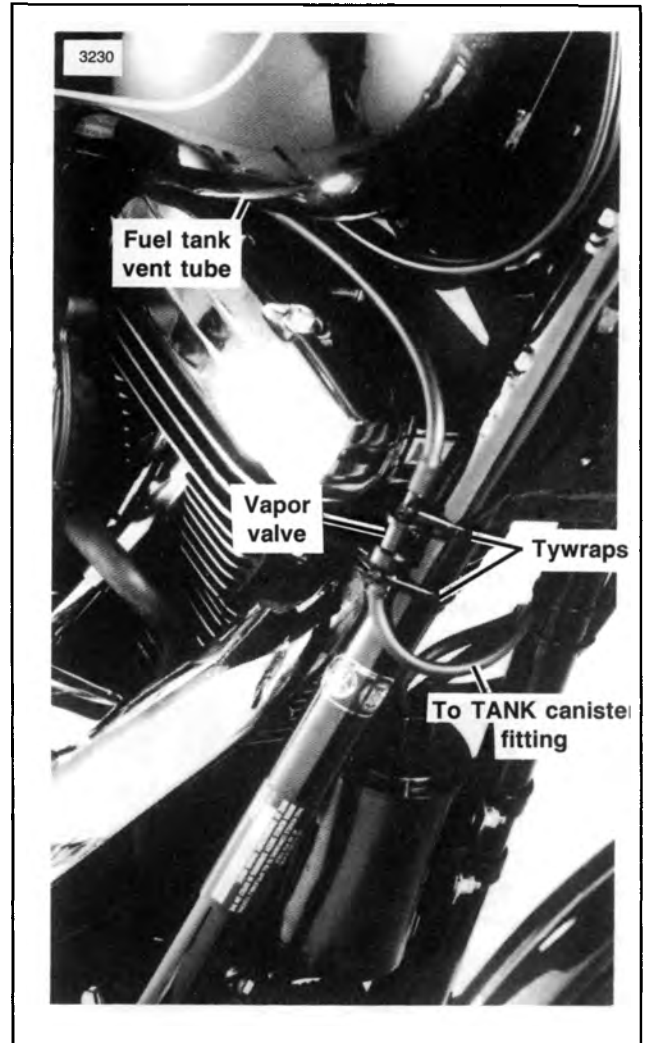
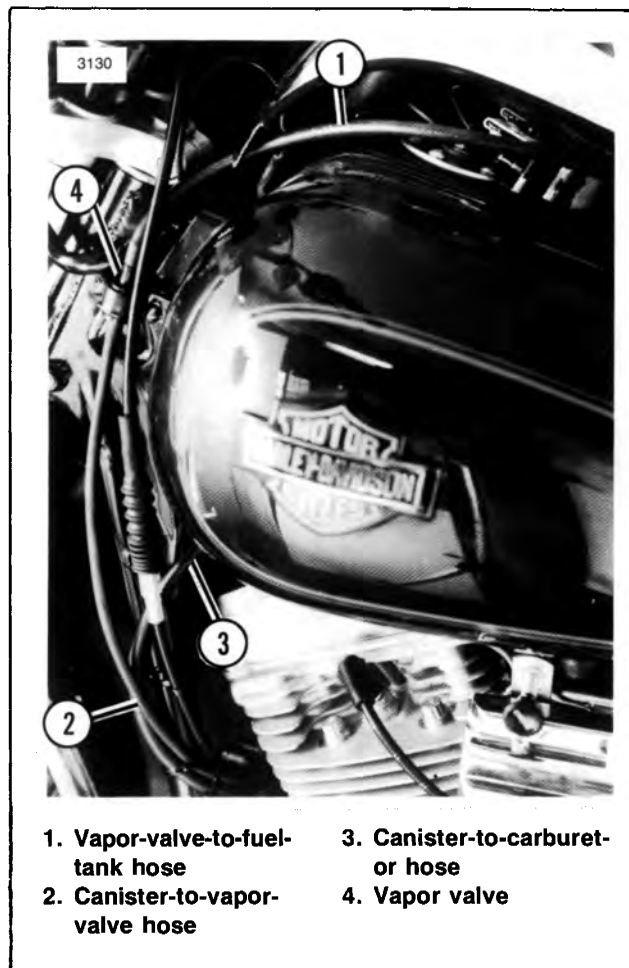

Figure 4-63. Vapor Valve Location — FXLR, 1988 FXRS
Figure 4-66. Hose Routing
See Figure 4-63. Mount vapor valve to right frame downtube as shown.
VAPOR-VALVE-TO-FUEL-TANK HOSE (Figure 4-66)
On FXRT, FXLR and FXRS the vapor valve location is different from that shown in Figure 4-66. FXRT hose is routed on left side of steering head as shown in Figure 4-66. The hoses on FXLR and FXRS are routed as shown in Figure 4-63.
The canister-to-vapor-valve hose connects the "TANK" nipple on the canister to the bottom nipple of the vapor valve (4). See Figure 4-66. On FXR, FXRS-CONV and FXRS-SP hose (2) is routed from "TANK" nipple on canister to bottom of vapor valve. On FXRT hose (2) is routed to vapor valve mounted on left top fairing bracket. See Figure 4-63. On FXLR and FXRS the hose is routed to vapor valve mounted on right downtube.